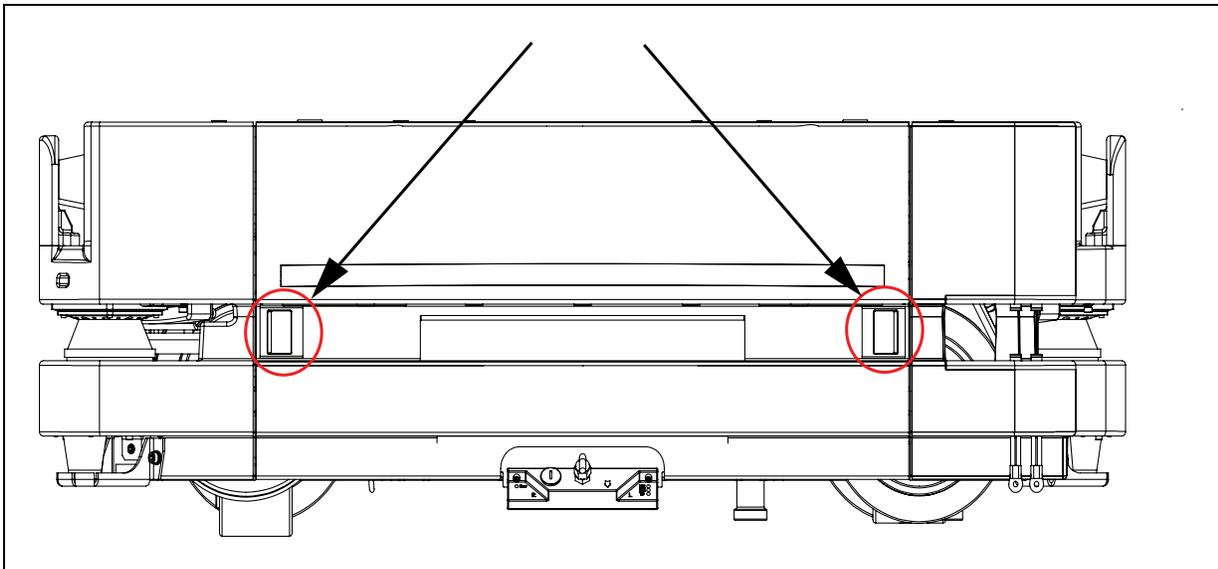

Figure 8-46. Front Skin Recessed Handles
1. Locate the front skin latches ((A) in Figure 8-46. in the laser cut-out groove as shown in the following figure. The latches also act as recessed handles for easy grip.